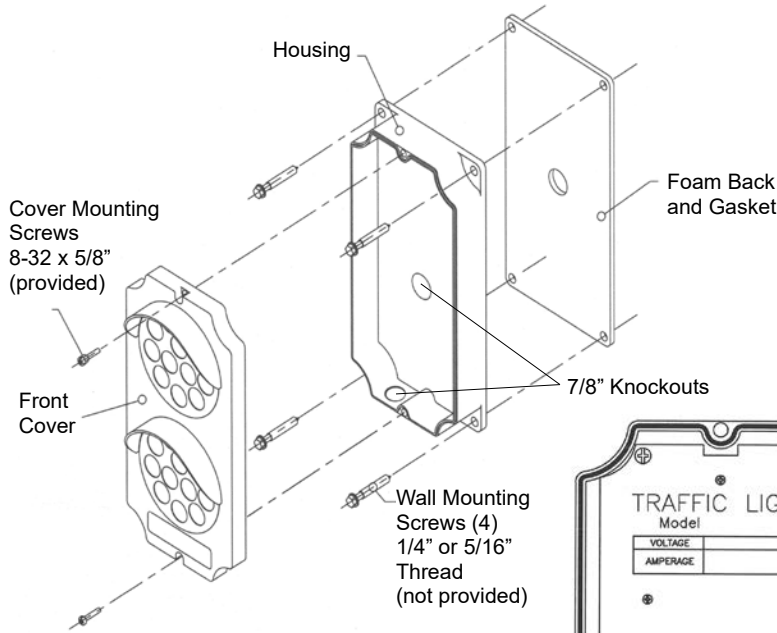
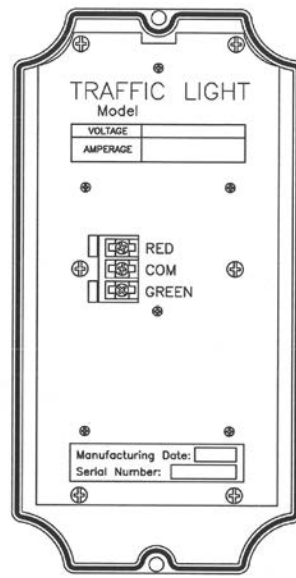
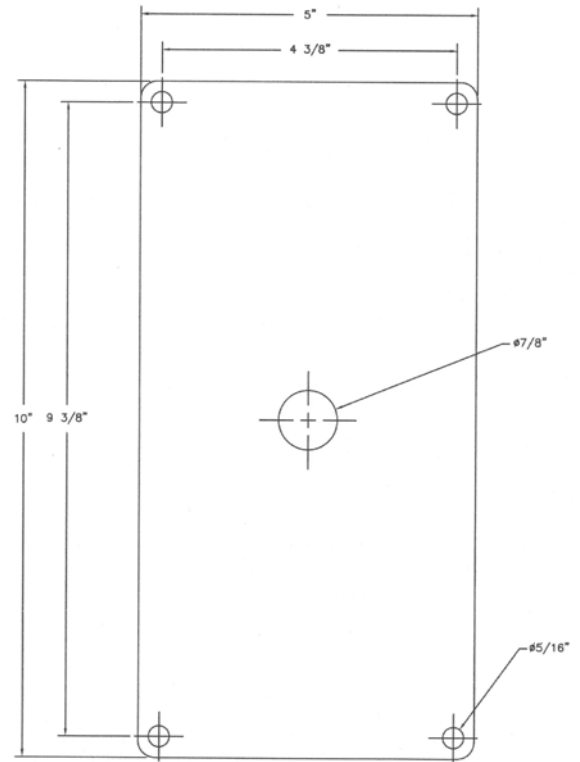

Figure 1: Exploded View
Figure 2: Housing (Back view)
Figure 3: Mounting Hole Dimensions and Positioning
1. Always shut OFF the main power before performing any electrical intervention. Disassemble the front cover from the housing by removing the two (2) cover mounting screws provided (5/8" stainless steel 8-32 thread).
2. In preparation to fasten the enclosure to the wall, install wall anchors that accept thread screws up to 5/16" (not supplied), refer to Figure 1 and Figure 3 as reference.
3. Run and mount conduit (not provided) through or up the wall to meet either the back center or bottom of the housing, and remove the appropriate 7/8" knockout, refer to Figure 1 and Figure 3 as reference. **DO NOT CONNECT CONDUIT OR WIRING THROUGH THE TOP OR THE SIDE OF THE ENCLOSURE.**
4. Mount the rear foam backing gasket and secure the enclosure to the wall using four (4) 1/4" or 5/16" thread stainless steel wall mounting screws (not provided), and connect the conduit to the enclosure using a suitable connector.
5. Run the wiring and then connect it to the clearly marked terminals on the rear of the front cover of the traffic light, refer to Figure 2 and the « Amperage Consumption » table as reference.
6. Fasten the traffic light to the mounted enclosure using the two (2) cover mounting screws provided.